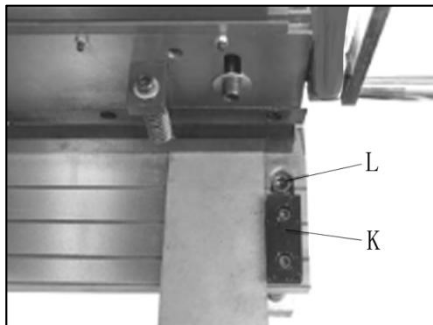

Figure 7
2. Place workpiece against guide block at right edge of table (K, Figure 7). The end of workpiece should be against guide plate.
2. If the shear does not cut the paper, loosen screw (L, Figure 7) at each end of table, with 6mm hex key.